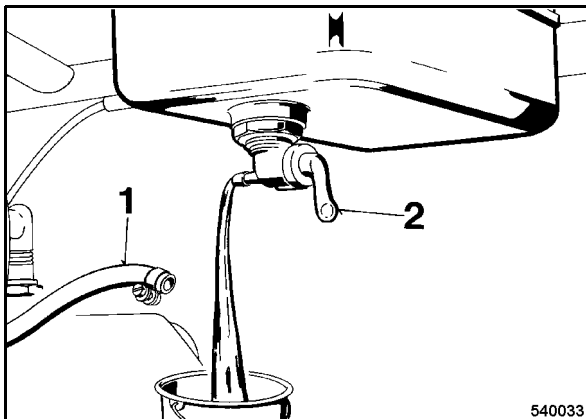

Fig. 53
- Disconnect fuel hose (1) (Fig. 53) from fuel cock (2). Open the fuel cock, drain off fuel.
- Unscrew fuel valve (2).